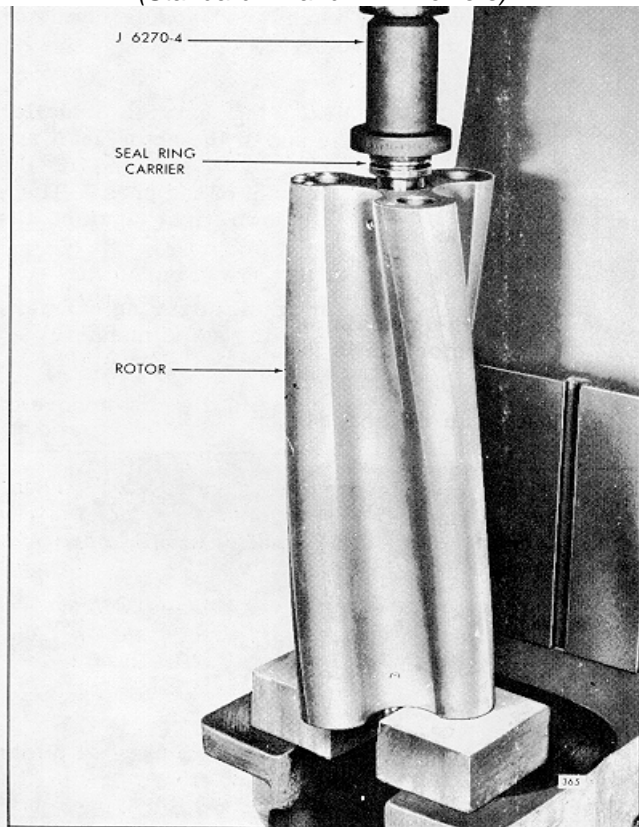

Fig. 16 - Installing Oil Seal Ring Carrier on Blower Rotor Shaft
a. Support one of the rotor assemblies on wood blocks on the bed of an arbor press as shown in Fig. 16.